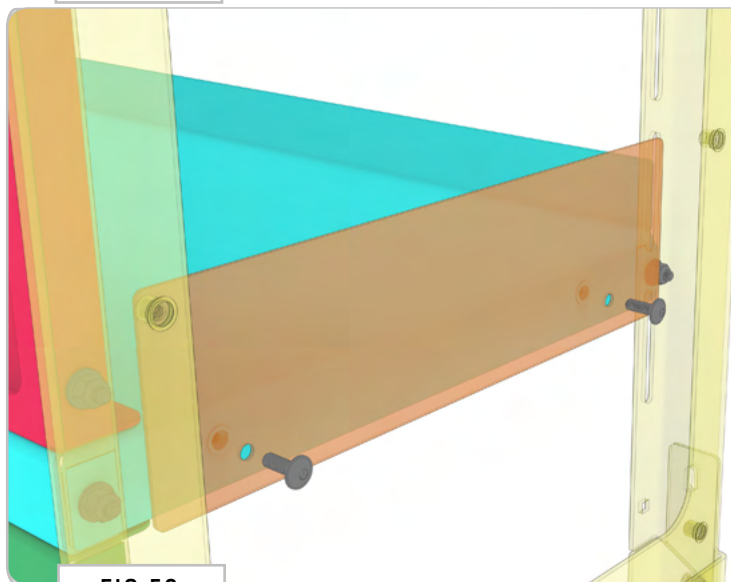

FIG 52
3.9 Attach Shelf Covers to Middle Tray: Attach the **Shelf Cover Plates** to the pre-threaded locations of the **Middle Tray** using (2ea) 1/4-20 x 0.75 Flanged Button Head Screws (FIG 52).